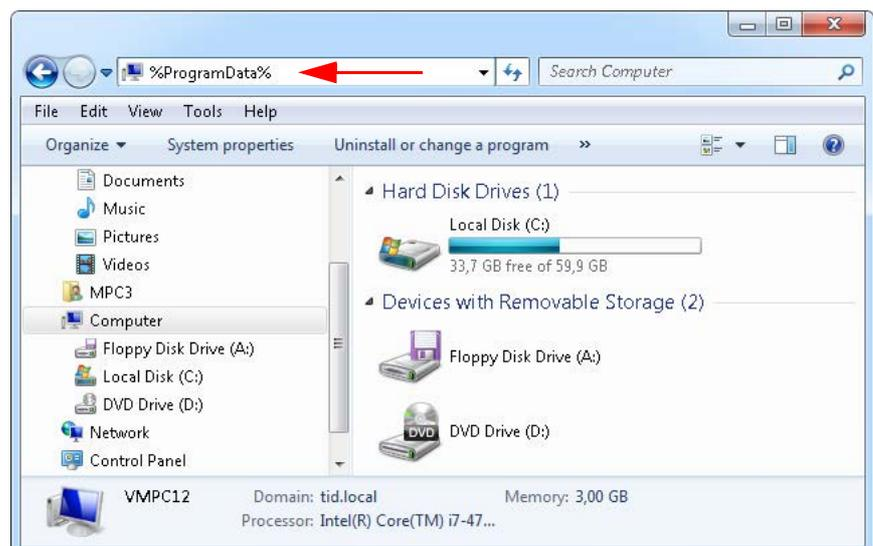

Fig. 6-16 Opening the (hidden) directory ProgramData.
1. In the Windows Explorer enter “%ProgramData%” in the address line (Fig. 6-16).